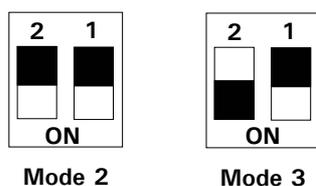

FIGURE A-2 DIP Switch Settings Mode 2 and Mode 3
- Input Mode 3** (single line control, default mode) – the position of the Nano valve is directly controlled by the status of Input A. When the Input A is connected to Ground, the valve will move into position 6-1. An open input will drive it back to position 1-2. In addition, the Input B is used as enabling/disabling signal. Connecting the Input B to Ground enables the valves while an open input will disable it. Switching the DIP switch #2 ON (lower position) connects Input B internally to Ground and enables the valve, e.g. no external enable signal is required (FIGURE A-2, Mode 3).
- Input Mode 2** (toggle mode) – the position of the Nano valve will toggle each time an active signal (connection to Ground) is applied to Input A. When operating the Nano Switching Valve in this input mode it is recommended that you use the manual switch to set the valve in a defined position (e.g. 1-2) prior starting the separation. Applying an active signal (connection to Ground) to Input B will toggle the valve position and toggle it again after a programmed delay (Section A.1.3-B). DIP switch #2 must be switched to OFF (FIGURE A-2, Mode 2).